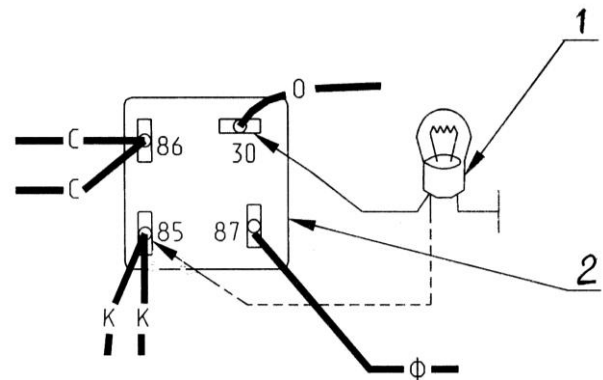

Fig. 10. Checking the integrity of the circuits of the starter solenoid switch 738.3747-30:
- c) Check the integrity of the circuits and application of the voltage to the terminals of the starter solenoid switch (K7) (Fig. 10):